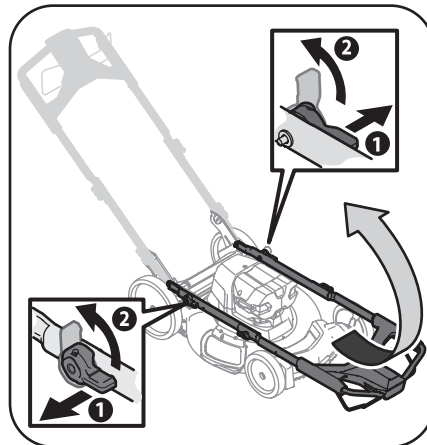

Figure 2-2
7. Pull out the handle adjustment levers to release the handle adjustment pins from the handle bracket. See Figure 2-2 insets.
8. Rotate the levers (a) up perpendicular to the handle as shown in Figure 2-2 insets. Carefully lift the handle up.